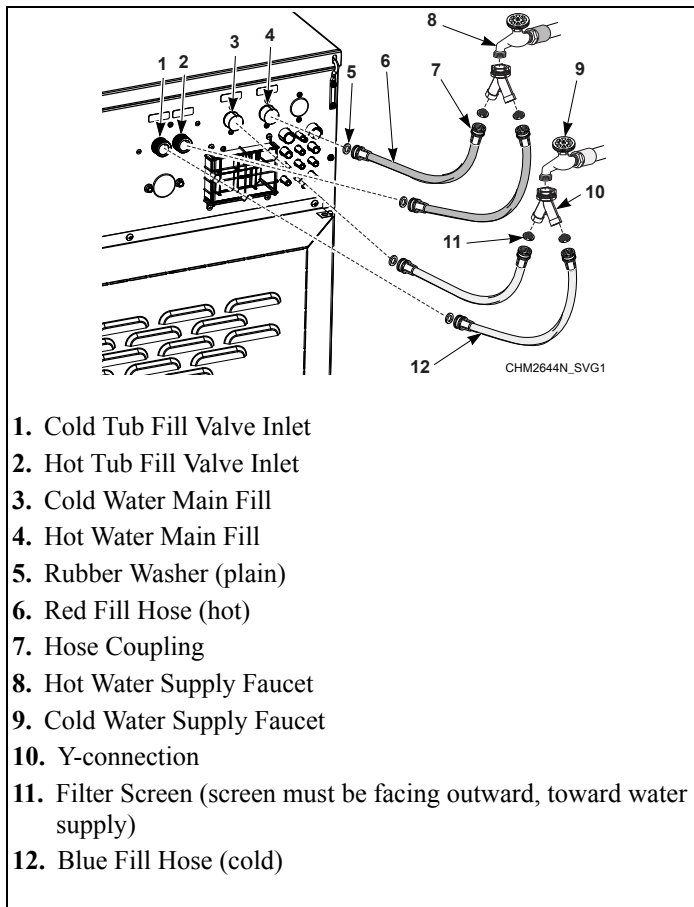

Figure 31
1. Before installing hoses, flush the building's water system at the machine connection valves for at least two (2) minutes.
2. Remove the four (4) plain rubber washers and four (4) filter screens from the accessories bag supplied with the machine.
3. Install one (1) plain rubber washer onto one end and one (1) filter screen into the other end of each fill hose. The screens must be facing outward toward the water supply. Refer to Figure 31.
4. Screw one (1) of the Y-connectors (supplied with the machine) into the cold water supply faucet and one (1) into the hot water supply faucet.
5. Screw hose couplings with the filter screens onto the water supply faucets until they are finger-tight. Use the two (2) red
7. Screw the coupling with the plain rubber washer of one (1) of the red color-coded hoses (attached to the hot water connection) onto the main fill valve inlet (marked with a red label). Screw the coupling with the plain rubber washer of the other red color-coded hose onto the tub fill valve inlet (marked with a red label). Tighten to finger-tight. Refer to Figure 31.
8. Screw the coupling with the plain rubber washer of one (1) of the blue color-coded hoses (attached to the cold water connection) onto the main fill valve inlet (marked with a blue label). Screw the coupling with the plain rubber washer of the other blue color-coded hose onto the tub fill valve inlet (marked with a blue label). Tighten to finger-tight. Refer to Figure 31.